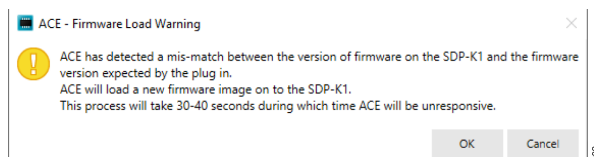
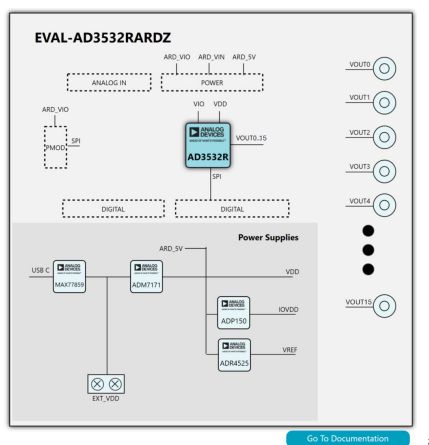

Figure 3. Firmware Loading Dialogue Box
Figure 2. Board View of the EVAL-AD3532RARDZ
3. Double-click the board plugin to open the board view seen in Figure 2. When the correct firmware in the SDP-K1 controller is missing or does not match, a dialog (as shown in Figure 3) appears and gives the option to flash the correct firmware. Press **OK** for initial setup. Press **Cancel** if the firmware has been loaded previously.